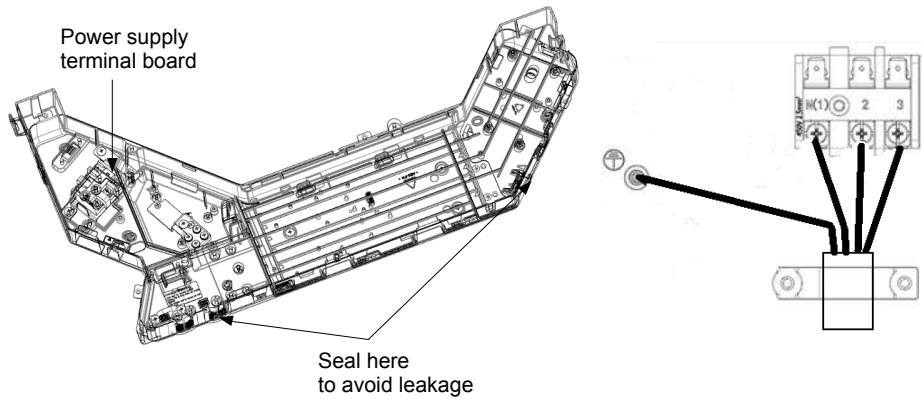

Fig.39
① . Tighten the power cord respectively on the terminal boards with screws. Faulty connection may cause a fire.
② . If the power supply are wired incorrectly, the air conditioner may be damaged.
③ . Connect the indoor unit connection cord properly based on the corresponding marks as shown in Fig.39.
④ . Ground both the indoor and outdoor units by attaching a ground wire.
⑤ . Unit shall be grounded in compliance with the applicable local and national codes.